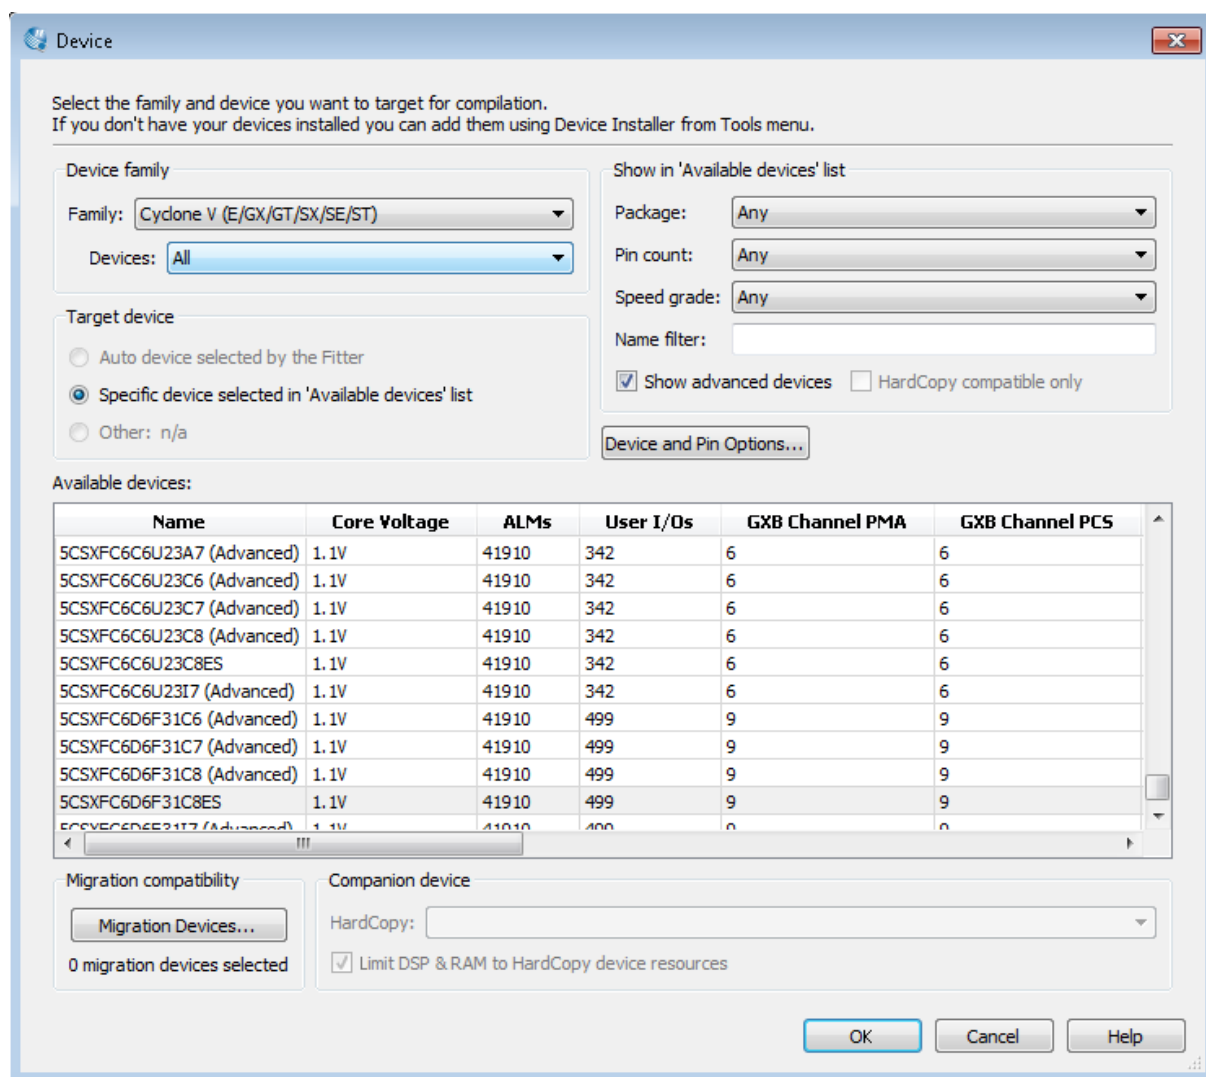

Figure 4-6 Device and Options
3. If other LEDs emit faintness light, Choose Assignments > Device. Click Device and Options. See **Figure 4-6**.